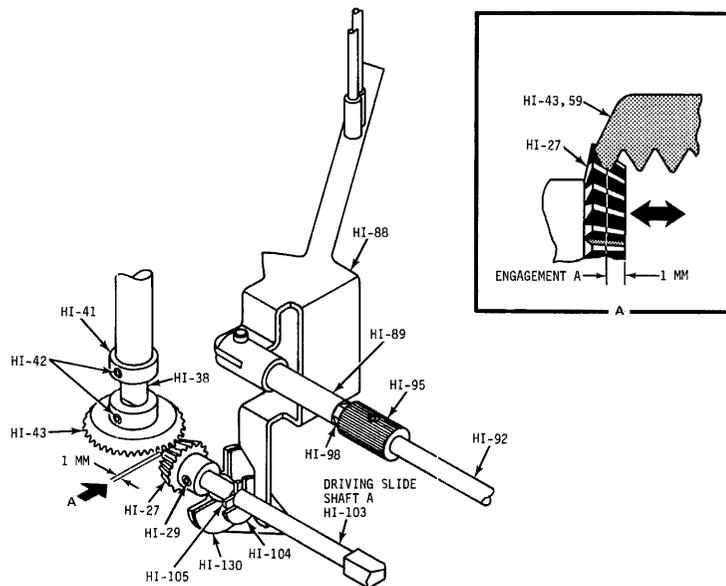
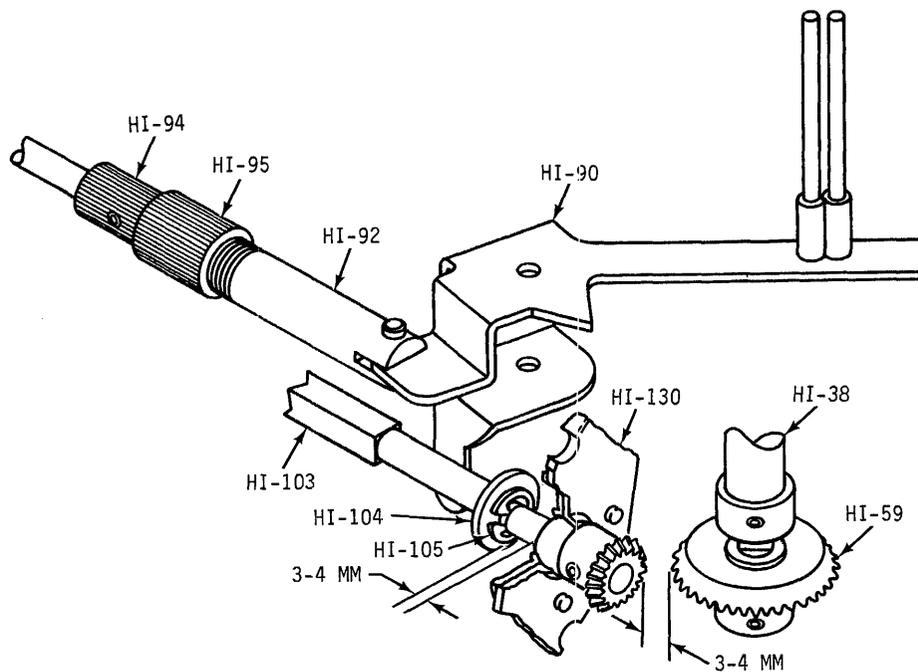
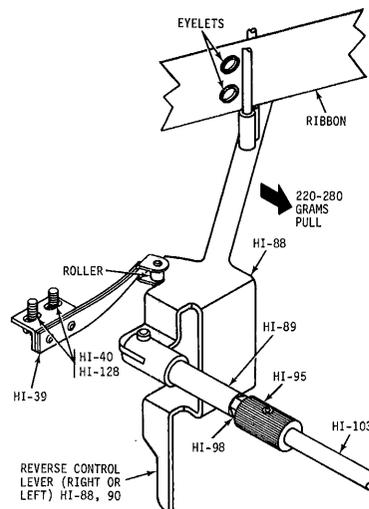

Figure 5-5. RIBBON FEED MECHANISM (REAR OF PRINTER, LEFT SIDE)
Figure 5-7. DRIVING SLIDE SHAFT A - ADJUSTMENT
Figure 5-9. RIBBON REVERSE TIMING
Above torque transmission route for the ribbon feed mechanism (left and right) is determined by position of driving slide shaft A (HI-103) (Fig. 5-7) controlled with control spring (HI-39) (Figure 5-9) reverse control lever (right) (HI-88) (Figure 5-9) and reverse control lever (left) (HI-90) (Figure 5-7).
A. Bevel Gears (left and right) (HI-27, 43) and (HI-27, 59) (refer to Figure 5-5)
2. Adjust bevel gear (HI-27) (left side) with respect to bevel gear (HI-43) by loosening and tightening allen-head screws (HI-29) to obtain engagement A of approximately one millimeter (0.039-in.) See Figure 5-5, and view A).
When engagement A (Figure 5-5) has been properly adjusted between gears (HI-27) with respect to bevel gears (HI-43, 59), adjust bevel gears (HI-43, 59) alternately to obtain correct backlash operation of gears in the following manner:
1. When engagement A and B of bevel gears has been made (Figure 5-5, 5-6), one snap ring (HI-105) always contacts support bushing (HI-130); the distance between other snap ring (HI-105) and the support bushing (HI-130) on shaft (HI-103) is 3 to 4 millimeters (0.12-0.16-in.). (See Figure 5-7). Note that distance between bevel gear (HI-59) and bevel gear (HI-27) is also 3-4 mm.
2. When bushings and holders (HI-133, 130) on left and right side of printer are installed, the driving slide shaft A (HI-103) should move freely and travel an overall distance of 3.0 to 4.0 millimeters (0.12 - 0.16-in.) when engaged alternately in either direction with bevel gears (HI-27, 43) or (HI-27, 59). (See Fig. 5-7)
(See Fig. 5-9)
1. When reverse control lever (HI-88) turns left by moving ribbon reversing shaft (HI-92) to left, and if Engagement A (Fig. 5-5) between bevel gear (HI-27) and bevel gear left (HI-43) is decreased to approximately 1.0 mm (0.039-in.), adjust position of control spring (HI-39) by loosening screws (HI-40) and flat washers (HI-128) to just pass roller mounted on control spring (HI-39), located underneath left ribbon spool shaft (HI-38) over top of ramp of reverse control lever (left) (HI-88). Note, that both ribbon spools will rotate freely when driving slide shaft A (HI-103) is in neutral position (top of ramp).
2. When ribbon of spool (empty condition) containing eyelets (or small plate) is blocked by ribbon guides (part of HI-88, 90) a pull of 220-280 grams (7.7 oz - 9.8 oz) is exerted on the reverse control levers (either left or right), which reverses the ribbon movement. (See Figure 5-9)
Both bevel gear (HI-27) and bevel gear (right and left) (HI-42, 59) should be timed so that they engage together after roller, mounted on control spring, passes over top of ramp of reverse control lever (HI-88). (Fig. 5-9)